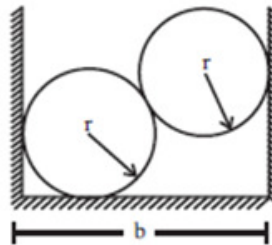

Figure 1
b) Two smooth spheres each of weight W and each of radius ' r ' are in equilibrium in a horizontal channel of width ' b ' ($b < 4r$) and vertical sides as shown in Figure 1. Find the three reactions from the sides of channel which are all smooth. Also find the force exerted by each sphere on the other. Center of the bottom sphere and lowest point of the upper sphere are in the same horizontal plane.